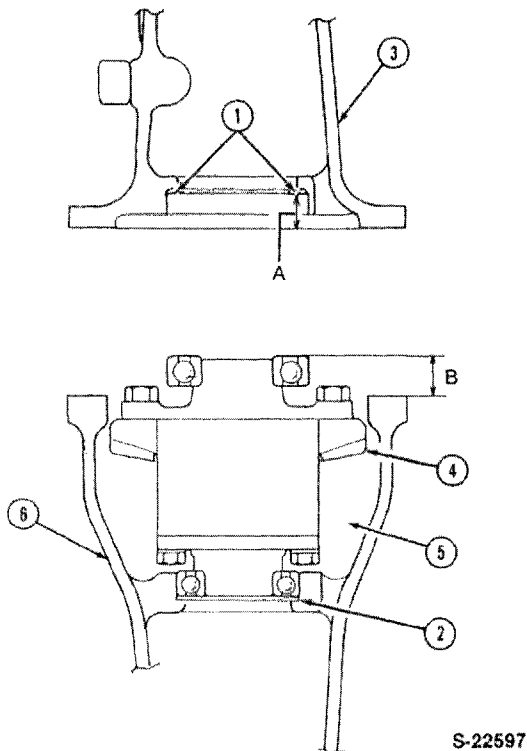

Figure 29
Reference — Figure 29
1. Position the differential carrier bearing and shim pack in place in the differential axle housing (6), Figure 29.
4. Measure the distance "A" and "B", Figure 29. Add or subtract shims from the shim pack so that the measurements "A" - "B" = .006 in (0.15 mm).